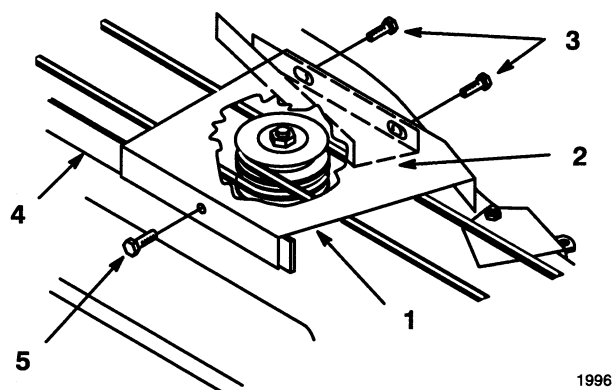

Figure 21
23. On 48" mowers mount belt cover loosely to the outside of the belt cover bracket (2) 1/4 x 3/8" flange screws and to rib using 1/4 x 1/2" flange screw (Fig. 21).